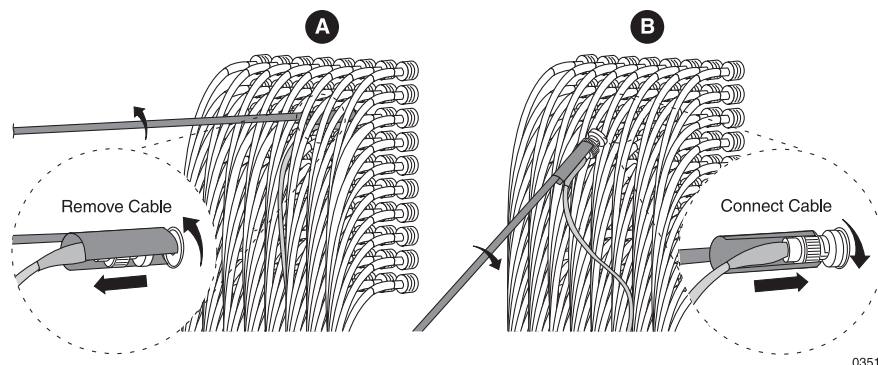

Figure 25 Using a Trompeter Tool
1. For ATM DS-3, DS-3, and E3 cards installed in slots 1 to 5 and 10 to 14, attach the cables to the BNC connectors at the rear of the chassis. Because of the close proximity of the connectors, a Trompeter tool (to insert or extract BNC cables) can help you make the connections; see Figure 25. To use the tool to connect a cable: